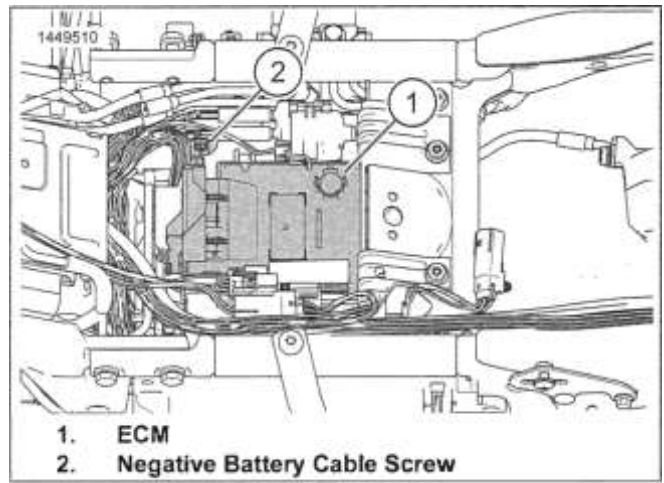

Figure 8-4. Top Caddy
3. See Figure 8-4. Detach Electronic Control Module (ECM) (1) from top caddy.
1. See Figure 8-4. Connect negative battery cable. Tighten.